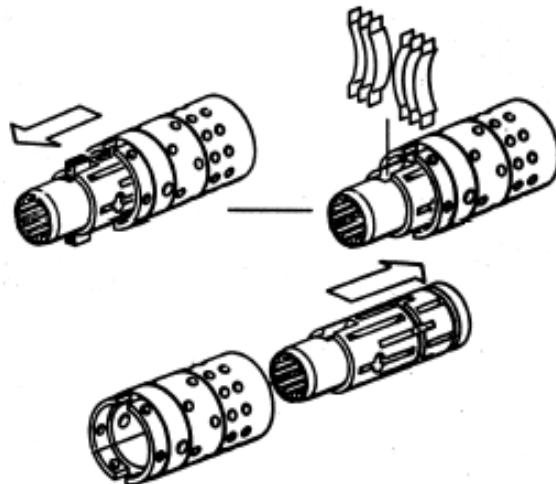

Figure 6
14. Push spool partially from control end of sleeve, then remove 6 centering springs from spool carefully by hand, see Fig. 6
15. Push spool back through and out of sleeve, see Fig. 6. Rotate spool slowly when removing from sleeve.